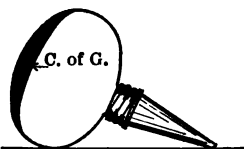

FIG. 107. — Oil-can.
4. Why does the oil-can shown in Fig. 107 right itself when placed on its side?